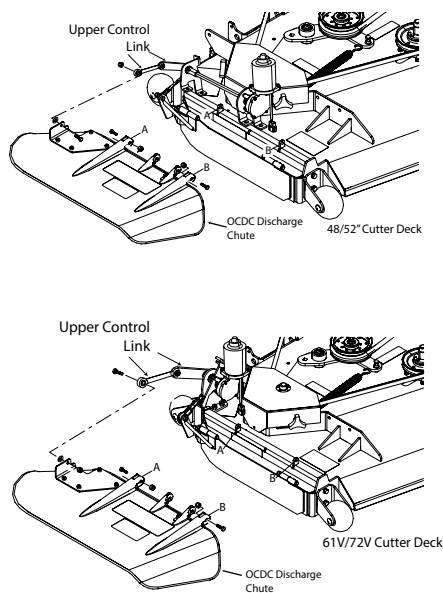

Figure 3-48. Discharge Chute Installation
15. Install the E-OCDC discharge chute to the cutter deck. Secure using two (2) 5/16-18 x 1-3/4" bolts and two (2) 2 5/16-18 elastic stop nuts. See Figure 3-48.
17. Secure the upper control link to the OCDC discharge chute using one (1) 5/16-18 x 1-1/4" bolt and one (1) 5/16-18 elastic stop nut. See Figure 3-48.